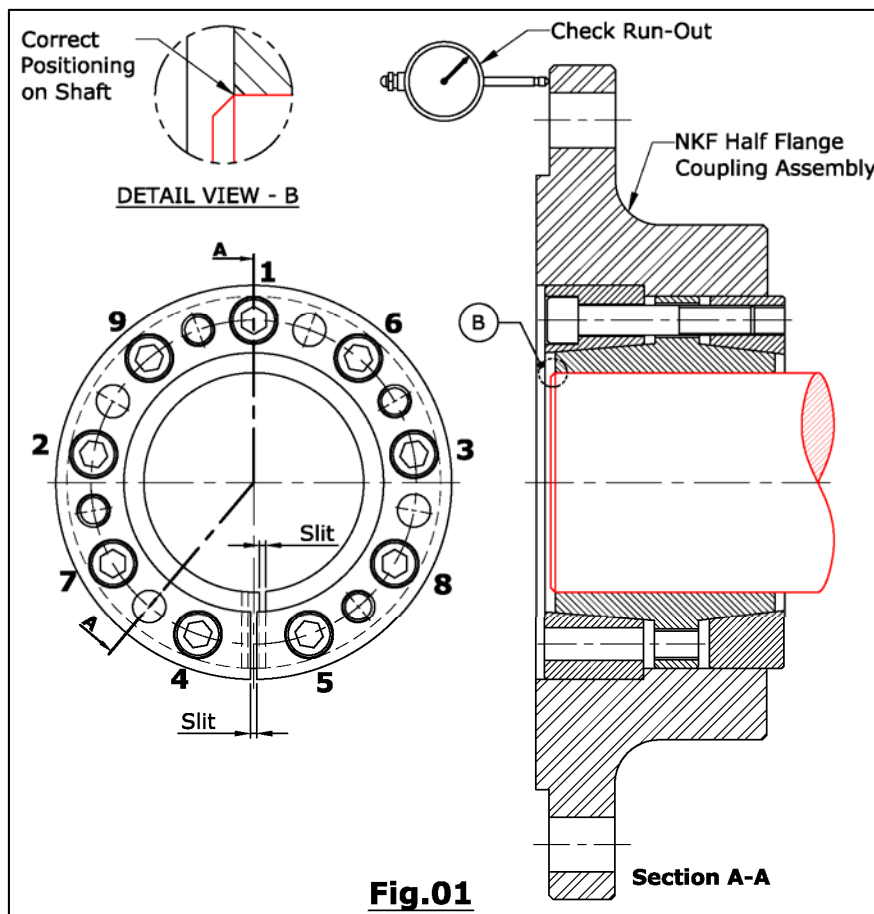

Fig.01
- By hand slightly loose allencap screw of keyless locking element. Remove the allencap screw no.2 or 3 from locking element which was shown as per in fig.01 and that screw them into the thread of centre of inner ring. This prevents the inner ring and rear nut from jamming while inserting keyless locking element into the flange.
- Slide the complete half flange coupling with slots in the keyless locking element facing vertically downwards onto the until the axial position reached as per shown in Fig.01. Reinstall that removed allencap screws again completly into the keyless locking element.
- **Manually start tightening the allencap screws in small increment starting with 12 o'clock (1st Marked Screw), 9 o'clock (2nd Marked Screw), 3 o'clock (3rd Marked Screw), until the tension has been evenly distrubuted (as shown in Fig.01). Donot use torque wrench for this procedure.**
- Tighten the remaining clamping screw in diametrically opposed sequence (as shown in Fig.01). to ensure that all screws are tightened, tighten then all screws again turn by hand.